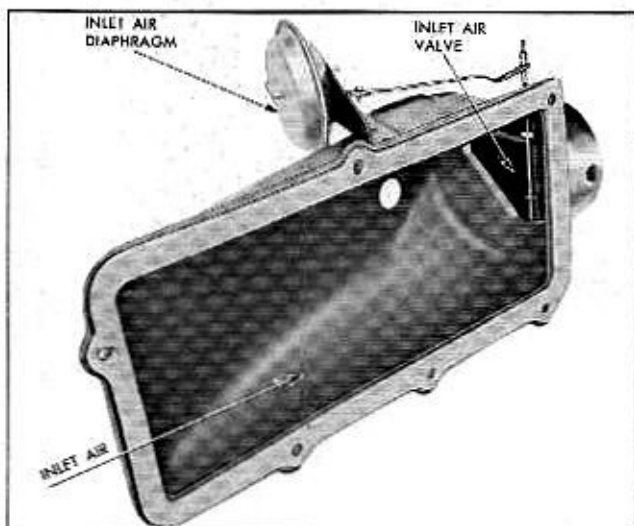

Fig. 1-24 Air Inlet Duct Assembly
4. Remove six nuts securing air inlet duct assembly and remove assembly and duct to housing sleeve. See Fig. 1-24.